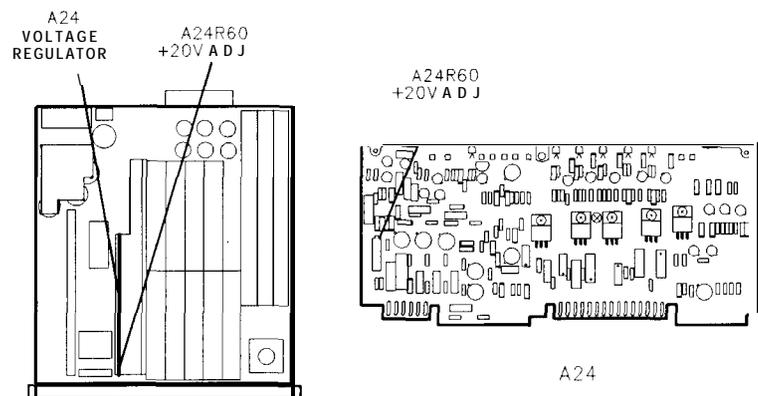

Figure 3-4. Location of RF Section Low-Voltage Adjustments
11. The +20V indicator A24DS2 (yellow LED) should be lit. See Figure 3-4.